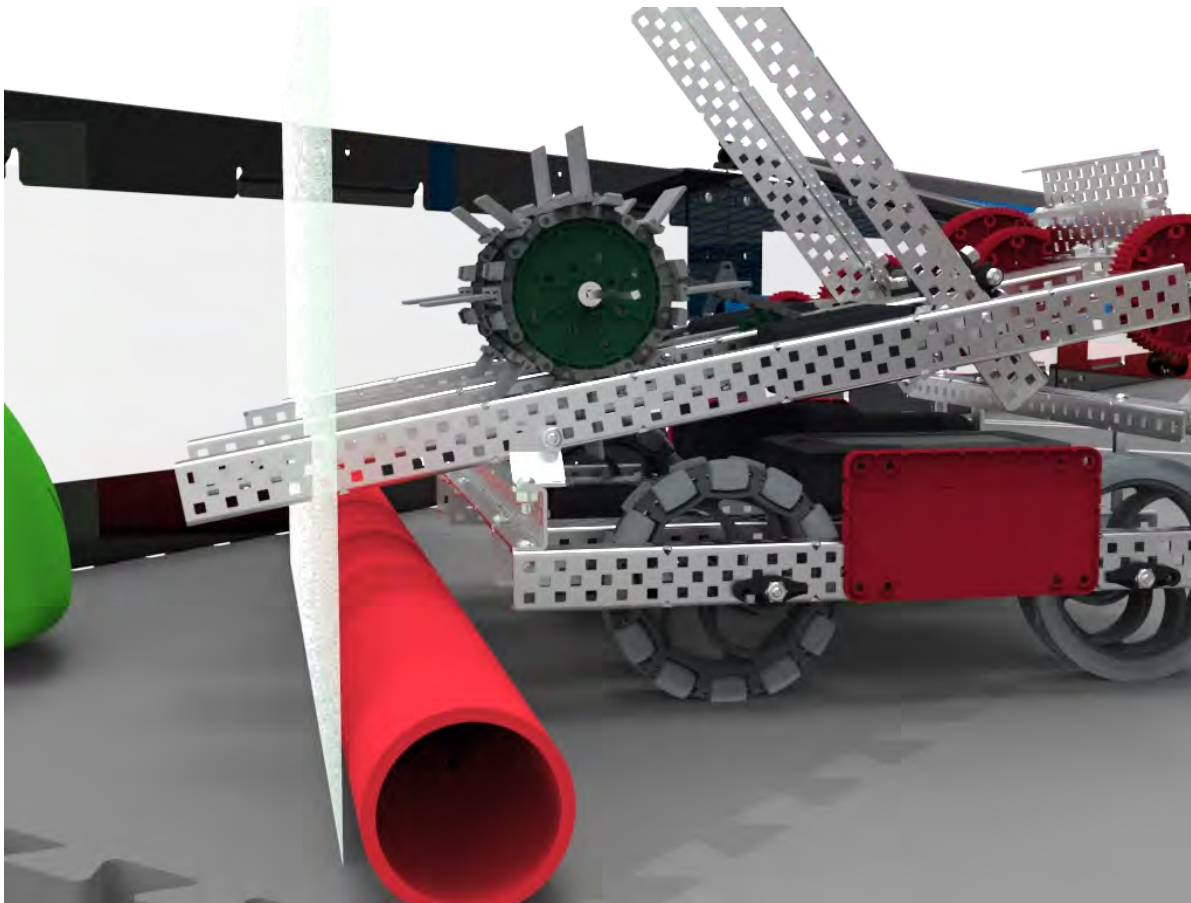

Figure 28: This Robot is not physically touching the Match Load Bar, but is still breaking the plane of the inside edge of the Match Load Bar.
2. Momentarily / accidentally losing contact with the Match Load Zone or Match Load Bar is permissible, provided that the Robot is still "breaking the plane" of the inside edge of the Match Load Bar. See Figure 28.